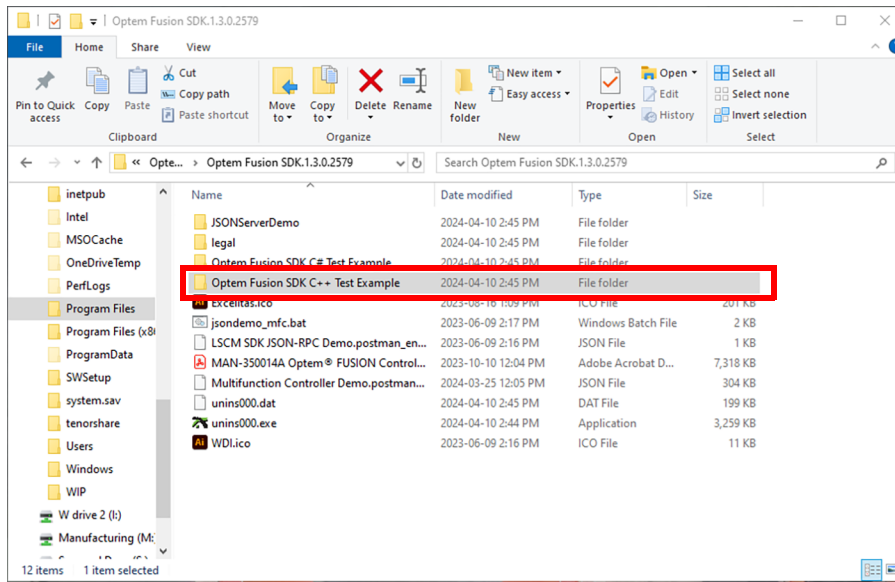

Figure 53 C++ Test Example Folder Location
1. Locate the C++ test example folder (outlined in red in Figure 53), in the **C:\Program Files\WdiDevice\Optem Fusion\Optem Fusion SDK. x.x.x.xxxx \Optem Fusion SDK C++ Test Example** folder.